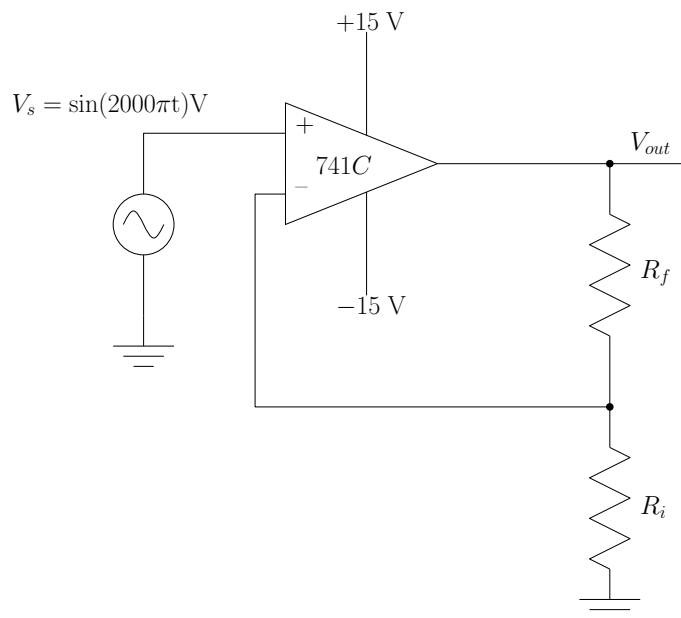

Figure 5.3: Basic Non-Inverting Amplifier.
1. Assemble the circuit shown in Figure 5.3 using $R_f = 10$ k Ω and $R_i = 1.0$ k Ω (Remember to color-code your circuit!). To implement your ± 15 V rails, recall your method from the pre-lab. Also, make sure that these share the same ground as your input signal. To help with the 741C pin-outs, check the
- (c) For the non-inverting amplifier in Figure 5.3, what gain would you have obtained if R_f was zero and R_i is infinite? This type of arrangement is known as a *voltage follower*. Explain the function of this amplifier and what it might be useful for. [LR 10]